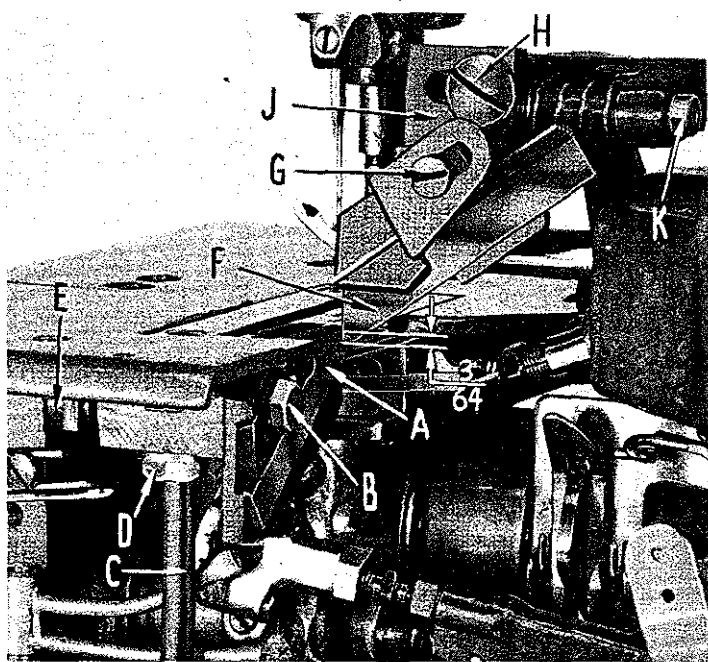

Fig. 12
Turn the handwheel in operating direction until the upper knife arm is in its lowest position. The cutting edge of the upper knife (F, Fig. 12) should overlap the cutting edge of the lower knife by about $\frac{1}{64}$ inch. Loosen clamp screw (G) to adjust upper knife. Move knife to the left to lower it or to the right to raise it. Tighten clamp screw. To set the spring tension on the upper knife, loosen screw (H), move knife holder block (J) to the left, and while holding it in this position, push knife guide collar shaft (K) to the right to increase spring tension on upper knife and tighten screw (H). Turn handwheel in operating direction until the upper knife is at its highest point of travel, and at this point, the pilot of the upper knife should overlap the lower knife about $\frac{3}{64}$ inch (Fig. 12).
The lower knife (A, Fig. 12) should be set so that its cutting edge is even with the top surface of the throat plate. Use a steel scale to get a parallel setting and when knife is at the right